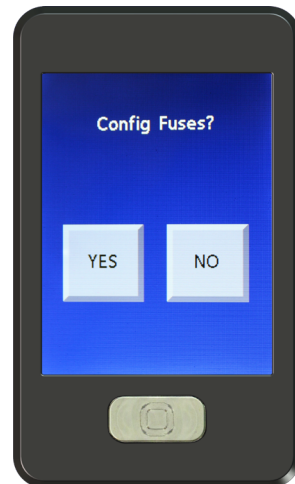

Fig.42
9. Once a configuration is saved a "Config Fuses?" screen (Fig. 42) will appear. Press "No" as any fuse configuring will need to be done by the manufacturer of the trailer.